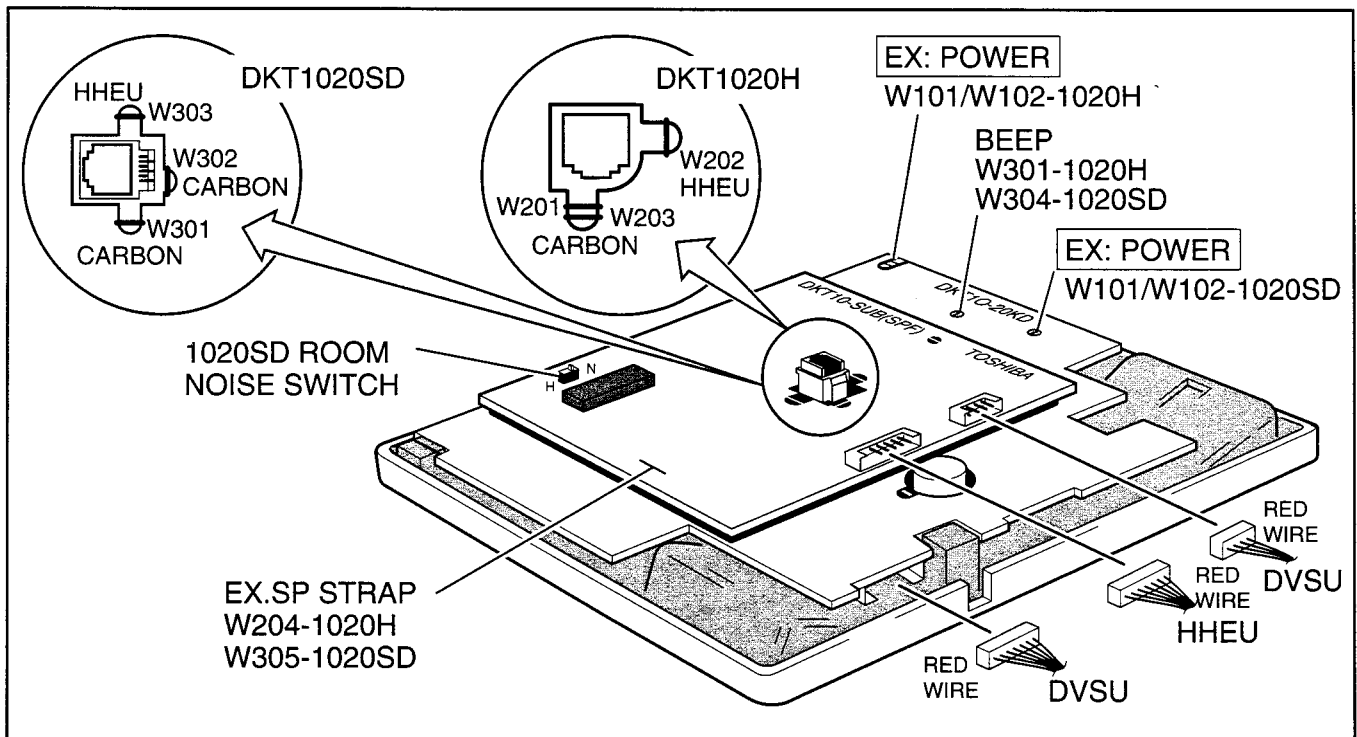

FIGURE 6-9
- 4B) If installing the DVSU into a 1000-series digital telephone, refer to Figure 6-9, and connect the DVSU wire plugs to the **DVSU** connectors on the PCBs inside the telephone.
- 7B) For 1000-series digital telephones, refer to Figure 6-9, and connect the wire plug of the HHEU to the **HHEU** connector on the PCB of the telephone.
- 8B) For 1000-series digital telephones, refer to Figure 6-9, and locate the **EX.SP** strap on the upper PCB in the telephone, and cut it if an HHEU will be connected to an HESB for the Loud Ringing Bell option.
- 9B) For 1000-series digital telephones, refer to Figure 6-9, and locate the **HHEU** strap on the upper PCB in the telephone. Cut the strap if an HHEU will be connected to a headset.
- 2B) For 1000-series digital telephones, refer to Figure 6-9, and cut the **CARBON** straps, (**W301** and **W302** on the DKT1020-SD; **W201** and **W203** on the DKT1020-H).
- 2B) For 1000-series digital telephones, refer to Figure 6-9, and cut the **BEEP** strap.
- 2) For the 1000-series speakerphone model (DKT1020-SD), refer to Figure 6-9, and locate the **ROOM NOISE** switch. Push the switch carefully to the **H** (high) position (for low sensitivity) when there is high background noise in the area surrounding the telephone.